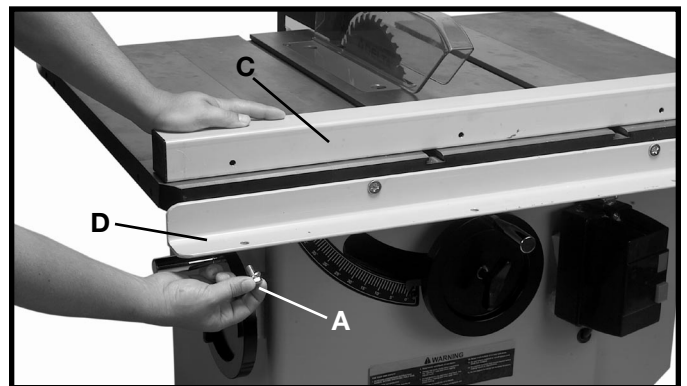
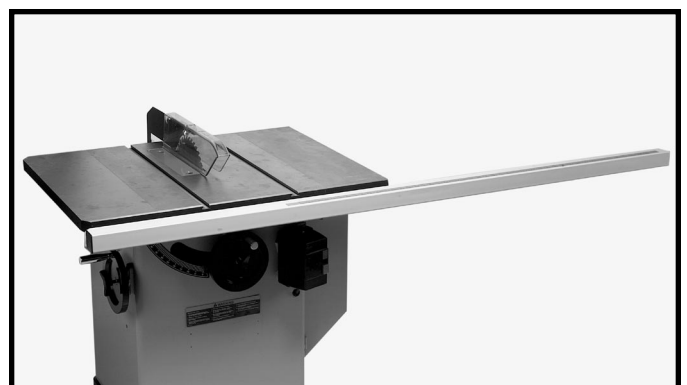

Fig. 5
Fig. 6
1. Align the holes on the bottom of the guide tube (C) Fig. 5 with the holes on the front guide rail (D).
2. Place an 8mm lockwasher on an M8x1.25 x16mm hex head screw (A) Fig. 5, and insert through the hole in the front guide rail (D), and thread the screw into the tapped hole in the bottom of the guide tube (C) and tighten securely. Repeat this process for the five remaining holes in the front guide rail and the guide tube as shown in Fig. 6.